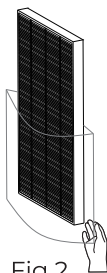

Fig 2
2. Remove plastic wrapping of filters (Fig 2) .